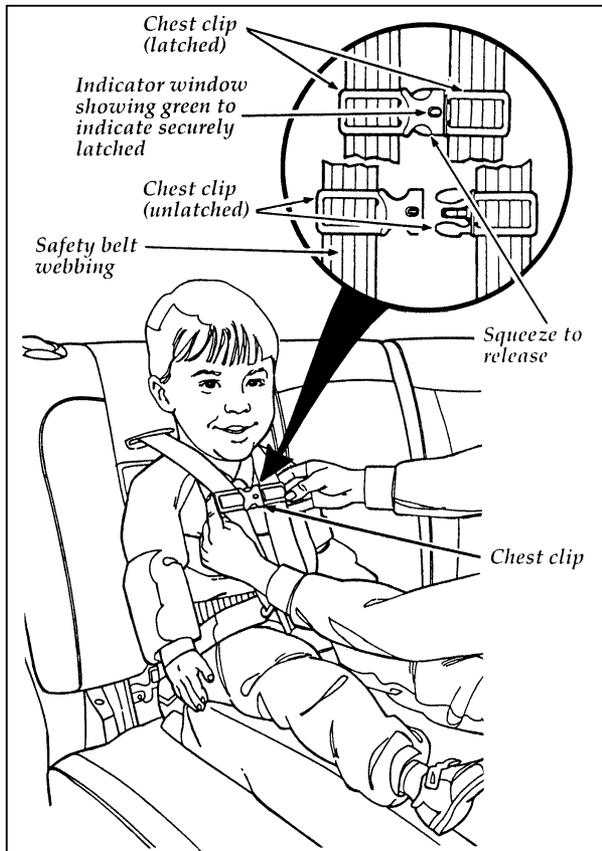

Figure 7: Securing the chest clip
6. Before placing the child in the child seat, forcibly tilt the seat from side to side, and tug it forward to make sure that the seat is securely held in place, Figure 7.
8. Fasten both halves of the chest clip below the child's shoulders and adjust it to comfortably hold the shoulder belts in place on the child's chest. The color green must appear in the indicator window when fastened. (The purpose of this clip is to position the shoulder belts correctly on the child's shoulders. The clip can be easily pulled apart and is designed to pull apart during a collision. The clip helps keep the belts on the shoulders of a sleeping or squirming child.) Refer to Figure 7.
1. Squeeze the tabs on the top and bottom of the chest clip and pull the halves apart to open the chest clip. Refer back to Figure 7.